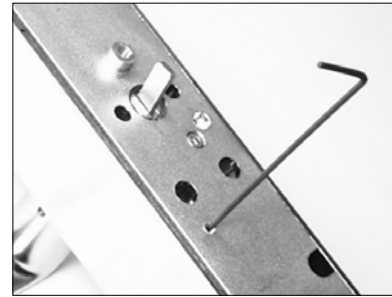

Fig. 1c: Use 1/16" hex wrench to screw in the cylinder back stop screw
- 1c. **Remove the key. Use a 1/16" hex wrench to screw the cylinder back stop screw in fully.** (See Fig. 1c) The key should now only rotate *counterclockwise*.